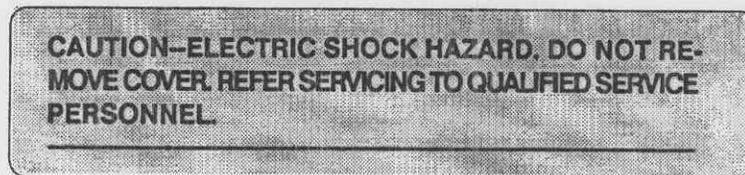

Figure 1-5. Warning label.
(3) A warning label, located inside the storage compartment, alerting personnel to the hazard of electrical shock, is depicted in figure 1-5. This label also includes German, French, and Spanish language versions.